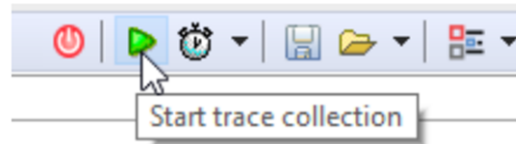

Figure 39. Start Trace Collection
- Click the green play button to start capturing data (see Figure 39). The red LED on the XDS110 debugger should be turned on, and will be so for the duration of the EnergyTrace capture.